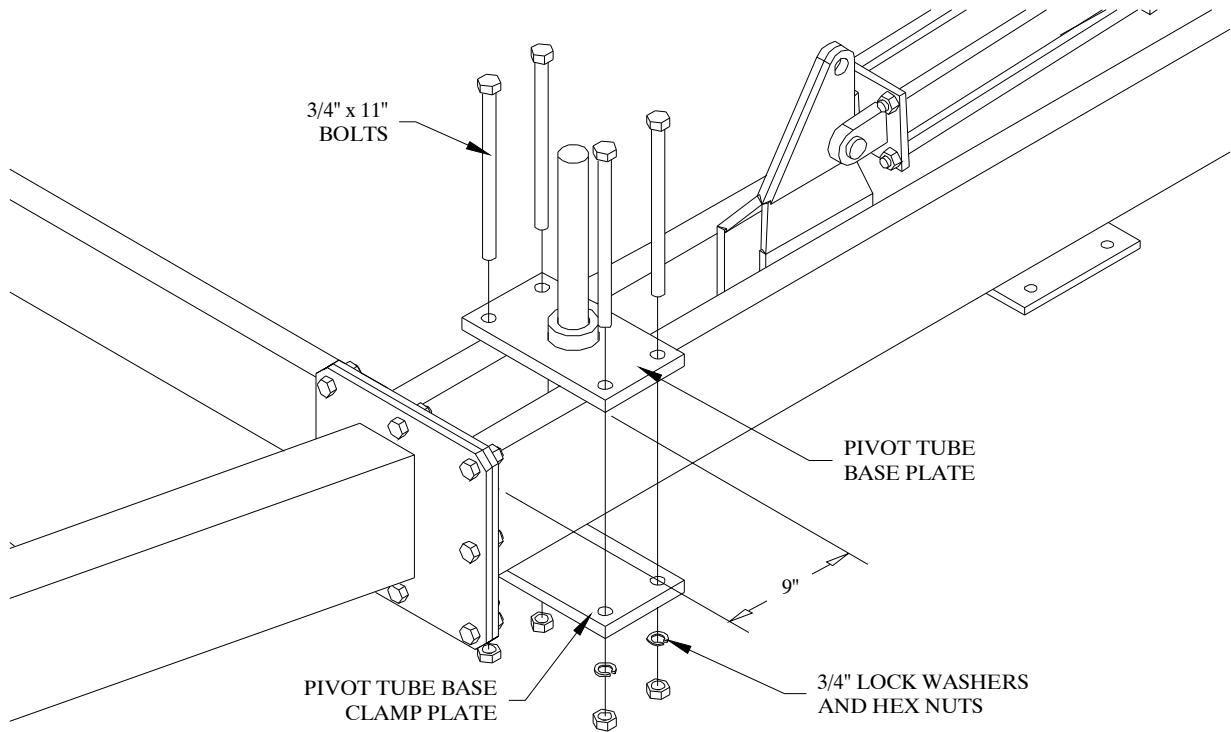

Figure 25
1. Clamp the main pivot arm base to the square frame 9" from the frame splice plate as shown in Figure 25. Use four 3/4" x 11" bolts, lock washers, and hex nuts.